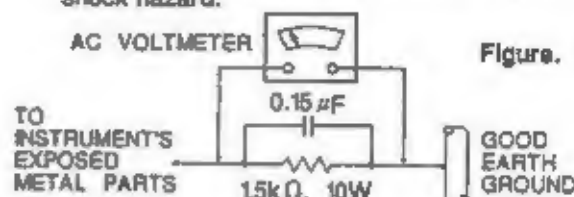

Figure. 1
- 5.2 Connect a 1500 ohm, 10 watt resistor, parallel a 0.15 μ F capacitor between each exposed metallic part and a good earth ground (as shown in Fig 1).